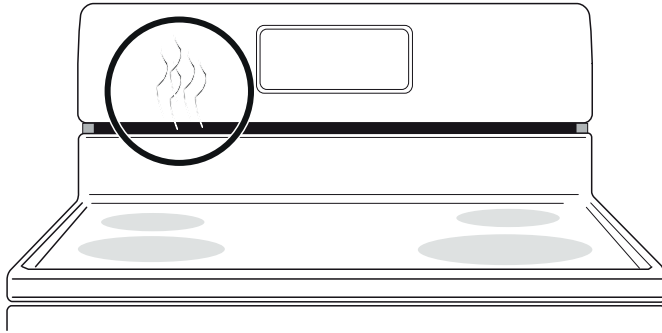

Figure 8: Oven vent
1. Push in the knob and turn in either direction (see Figure 8). The temperatures are designated by hi and lo. However, the control can be set at any position between hi and lo for different levels of warming.